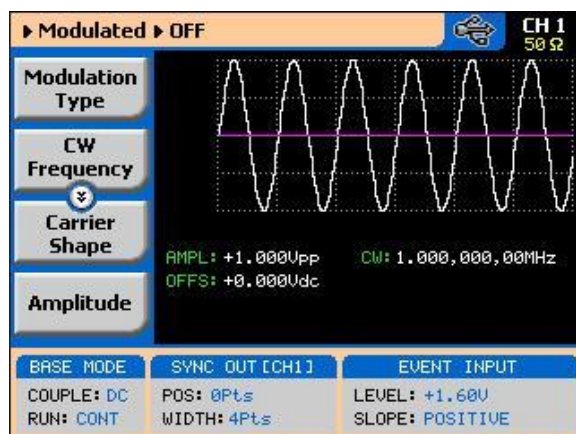

Figure 3-30: The Modulation Function Main Screen
The modulation function is turned on immediately after you press the Modulation button in the Functions group on the right side of the generator. By default, modulation is turned off and therefore, the output generates carrier wave (CW). The first modulation screen is shown in *Figure 3-30*. The modulation functions and their parameters are described as follows: